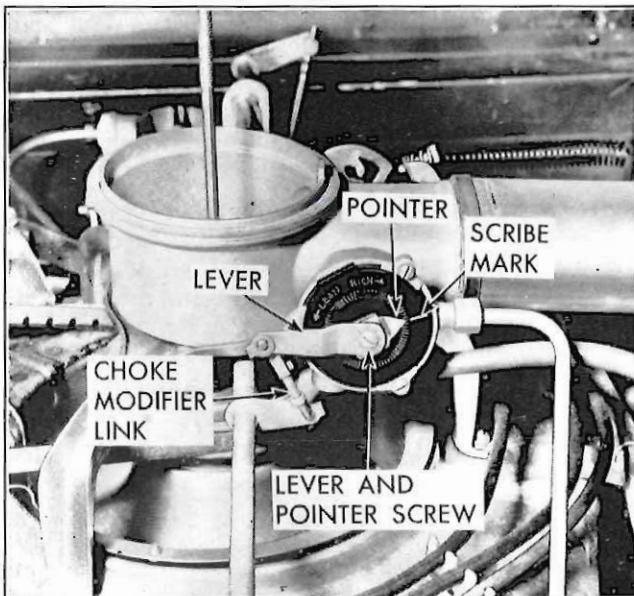

Fig. 6—Automatic Choke Adjustment
20. With the choke in the full "Off" position, set choke pointer to the index mark scribed on the choke housing. Choke modifier lever must be in the position shown in (fig. 6).